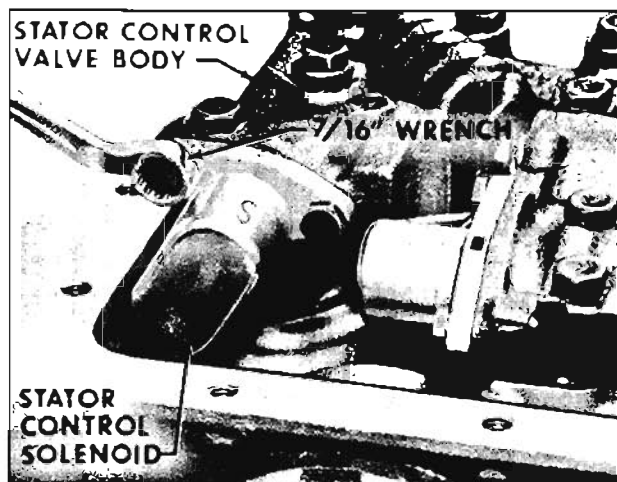

Fig. 6-263 Removing Solenoid
3. With a grease pencil mark stator control solenoid with an "S". This "S" will identify stator control solenoid for reassembly. (Fig. 6-263)
4. Remove two solenoid to stator control valve body retaining bolts with 7/16" wrench. Remove stator control solenoid gasket. (Fig. 6-263)